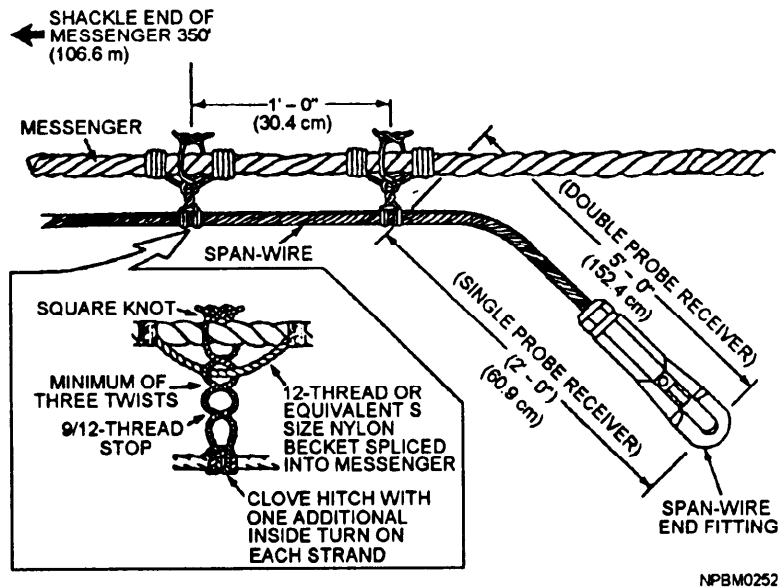

Figure 10-19.—Method of securing the span wire to the messenger.
- Span wire: The span wire is secured in the manner shown in figure 10-19 to the hose line messenger, 350 feet from the inboard (shackled) end of the messenger. A span-wire weak-link end fitting is used with the probe rigs. A 3/4-inch fitting is used for a single-hose rig, and a 7/8-inch fitting is used for the double-hose rig. A 3/4-inch shackle and a 1-inch pelican hook are used with span-wire rigs other than probe. The other end is passed through one of the outermost blocks at the head of the boom (or outrigger) and then fair-led to a winch or the ram tensioning device, as the case may be.